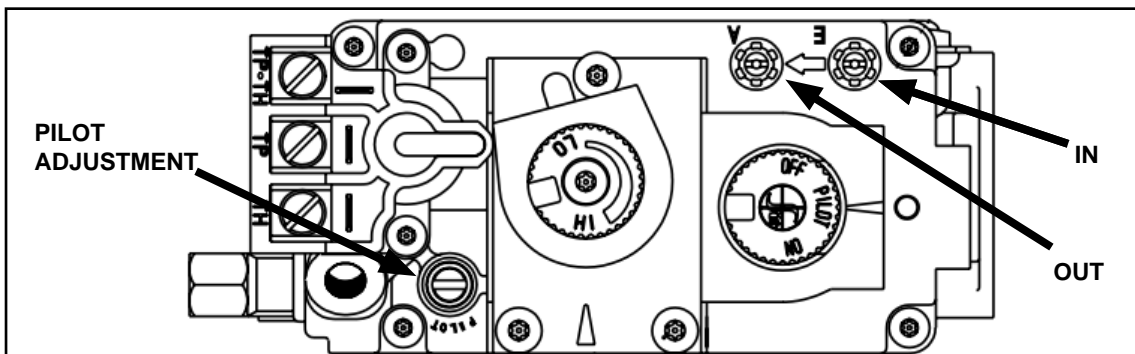

Figure 20.3.01
2. The pressure test taps are located on the valve's front face. The inlet is marked "IN" and the outlet is marked "OUT". See **Figure 20.3.01**.
The flame should not have yellow tips but should engulf the flame sensor and spark electrode. It can be adjusted by turning the screw marked "pilot" on the control valve (See **Figure 20.3.01**).